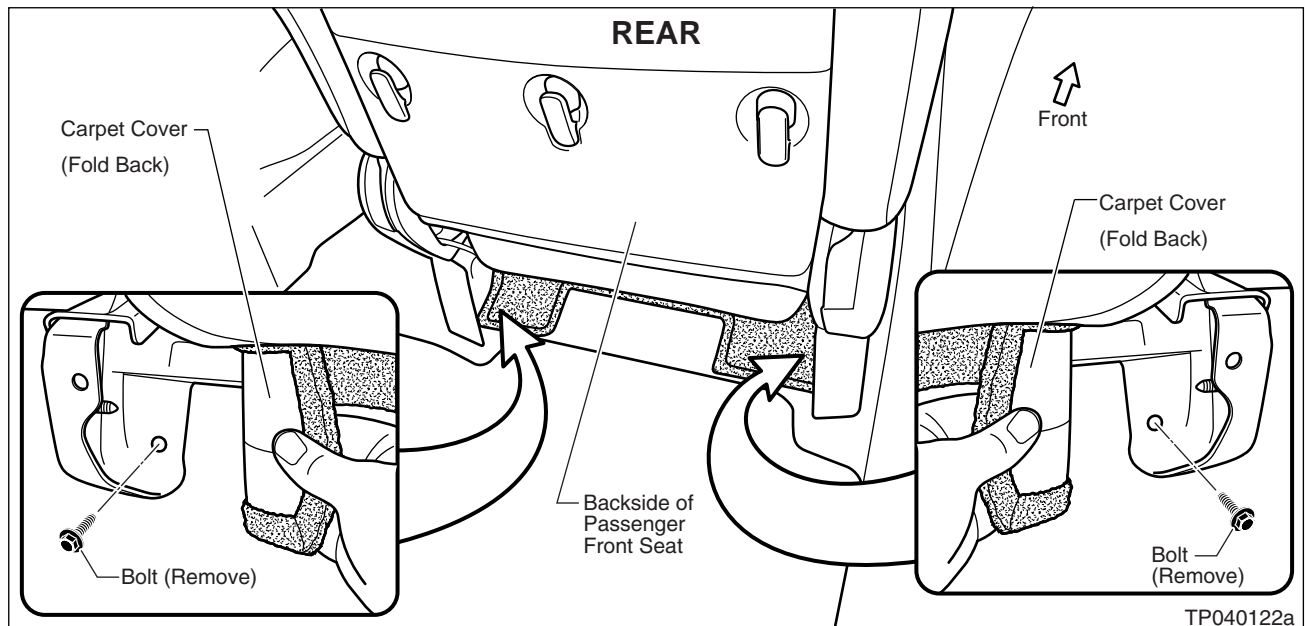

Figure 1-9
12. Remove the 2 rear mounting bolts (see Figure 1-9).